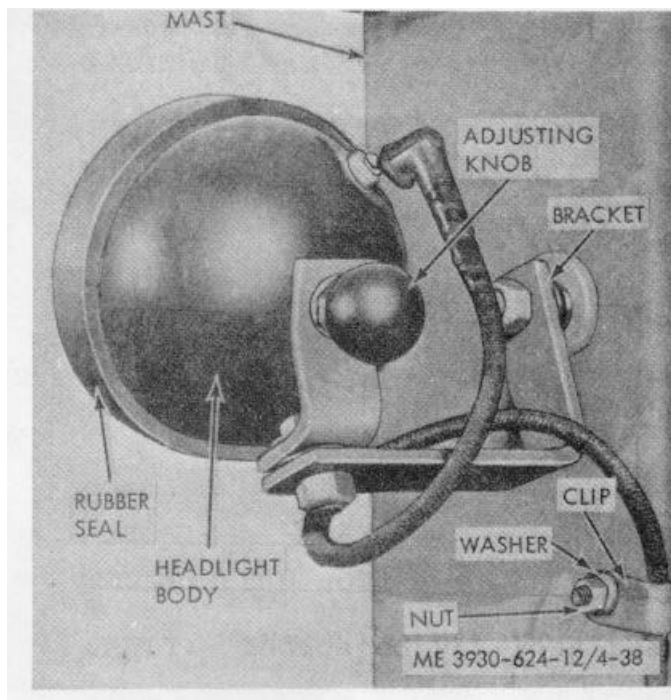

Figure 4-38. Headlight assembly.
(1) To remove the headlight (fig. 4-38), disconnect the electrical lead. Remove the knob, nut and washer securing the headlight to the bracket. Remove the headlight.